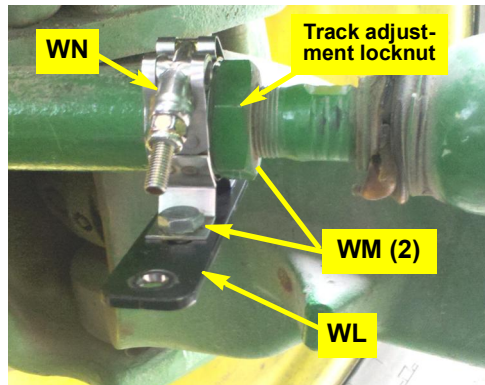

Figure 2c: WAS link rod bracket mounting clamp installed
- c. Install link rod bracket mounting clamp **WN** on the left tie rod, against the track adjustment locknut. Install the clamp with its screw head toward the front and its two flanges downward. Using hardware **WM**, attach link rod bracket **WL**—link mounting hole rearward—to clamp **WN** (Figure 2c).